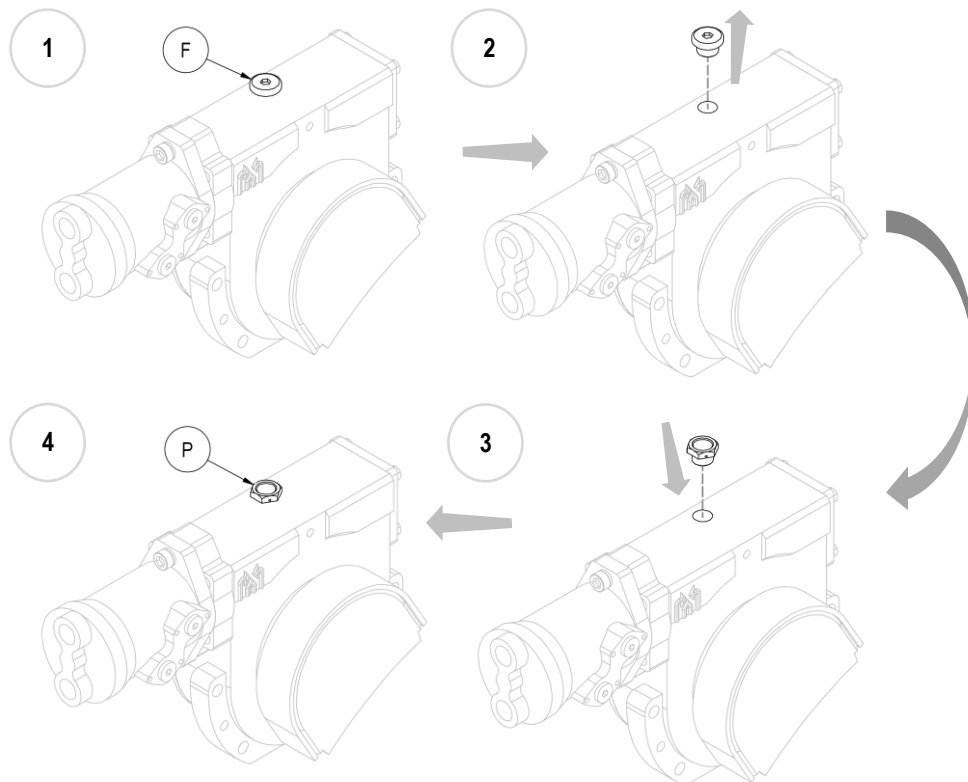

Figure 10
11. **N.B.** With the equipment mounted, replace the blind iron oil filler plug (F) with the plastic one supplied (P), which includes a breather (see *Figure 10*).